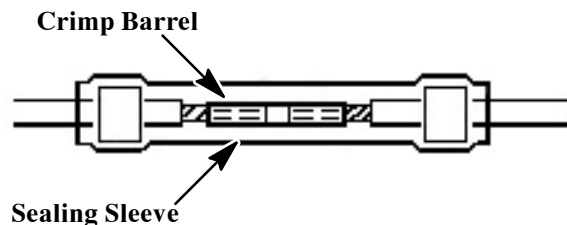

Figure 4. Sealing Sleeve Centered
g. Center sealing sleeve over crimp barrel (Figure 4).
r. Center sealing sleeve over crimp barrel (Figure 4).